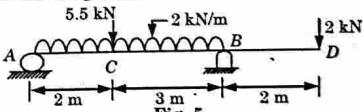

Fig. 5.
- Q. 7. Determine SFD and BMD for the simply supported beam as shown in Fig. 5 and also find maximum bending moment.